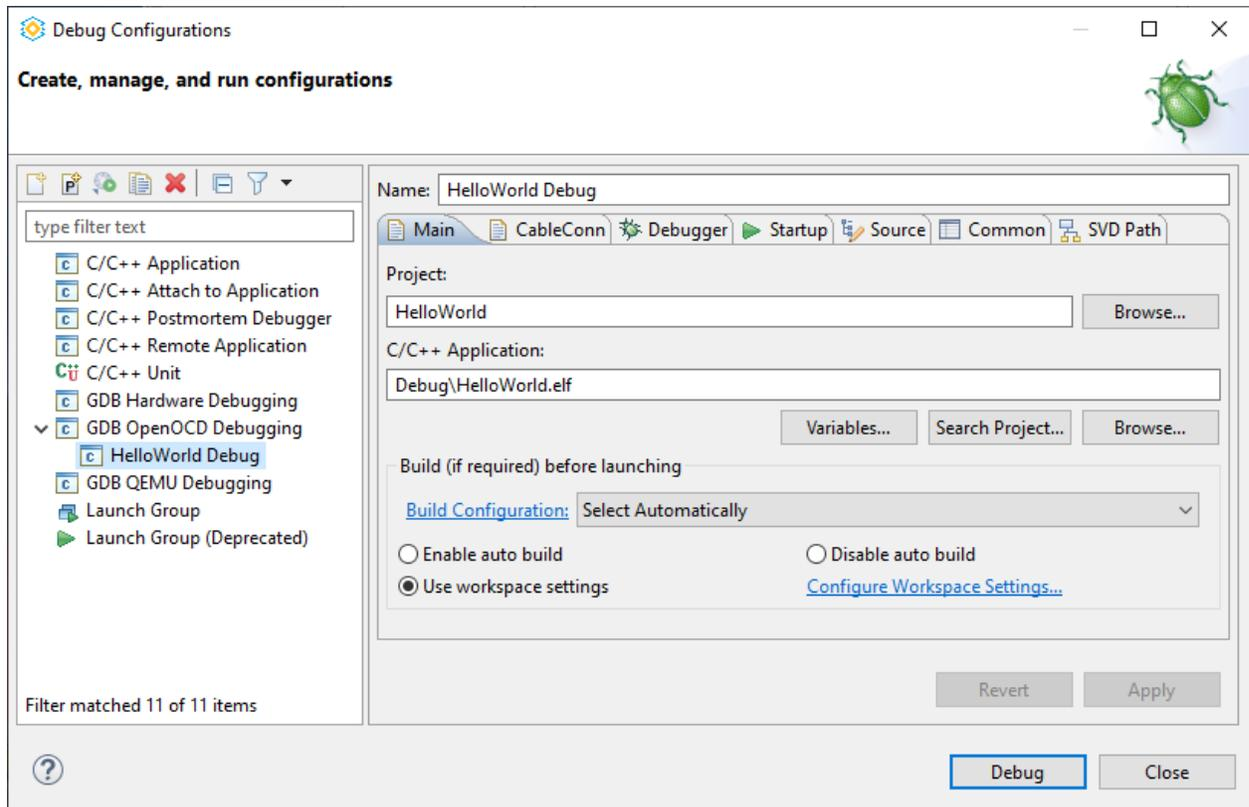

Figure 4.12. Debug Configurations Page
7. Double-click **GDB OpenOCD Debugging** to create a new launch configuration (Figure 4.12).